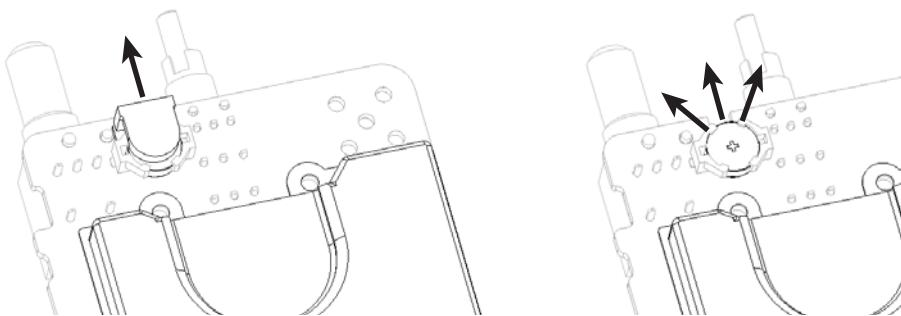

Figure 34. Remove the Backup Battery
2. Remove the backup battery retaining clip by sliding it away from the main circuit board, as shown in Figure 34.